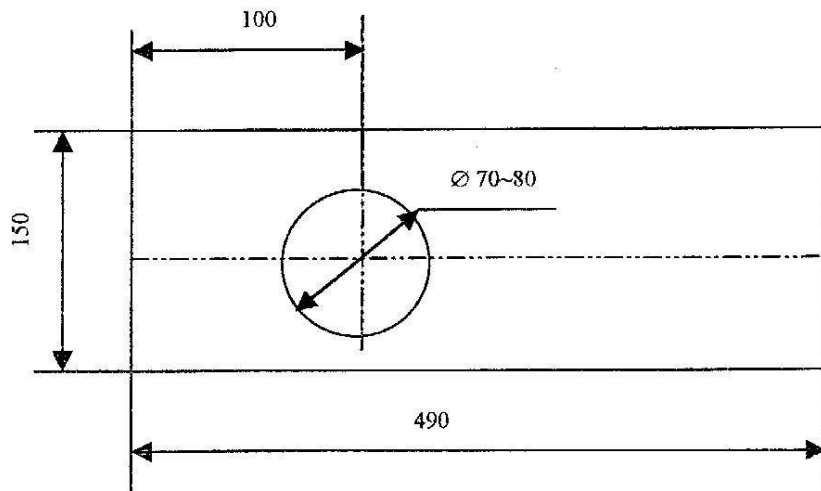

Figure 1
- 4.2.5 After unpacking, the tester shall be placed on a stable bench with levelness deviation less than 1 mm/m. A hole shall be drilled at an appropriate location on the bench (see figure 1) to enable the lifting screw to operate properly.